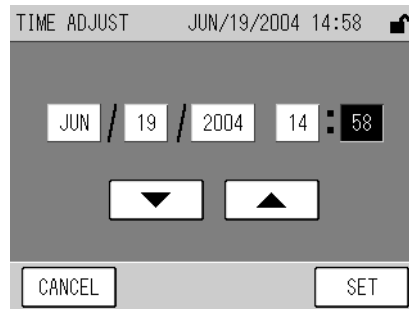

Fig. 67 TIME ADJUST screen
- [TIME ADJUST]: Displays the TIME ADJUSTMENT screen (Fig. 67 on page 54).